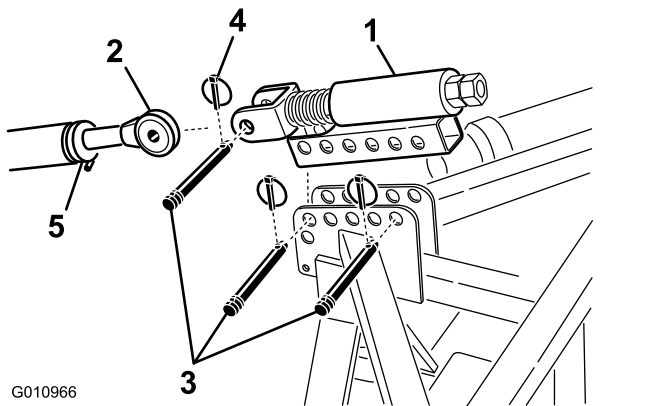

Figure 9
1. Mount the spring-loaded top link to the aerator bracket with 2 link pins and lynch pins (Figure 9)
2. Loosen the locknut on the traction unit upper link. Adjust the upper link length until it aligns with the clevis on the spring-loaded top link of the aerator (Figure 9).
3. Connect the traction unit upper link to the clevis on the spring-loaded top link and secure with a link pin and lynch pin (Figure 9).
6. Rotate the upper link until the spring compresses approximately 13 mm (1/2 inch) (Figure 9).